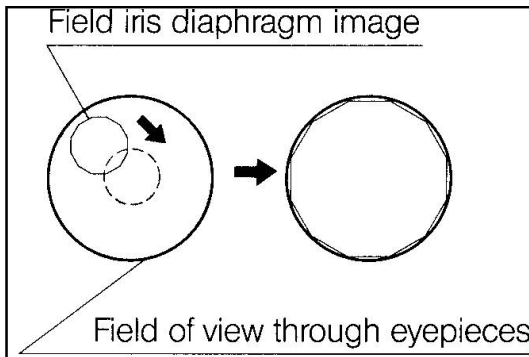

Fig. 2
4. To check centration, open the field iris diaphragm until its image touches the perimeter of the field of view. If the image is not precisely inscribed in the field of view, center again. (Fig. 2)